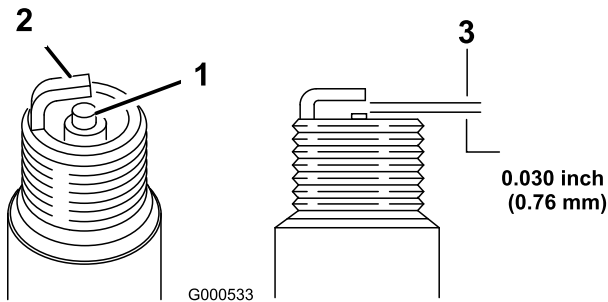

Figure 22
5. Set the gap on the plug to 0.030 in. (0.76 mm) (Figure 22).